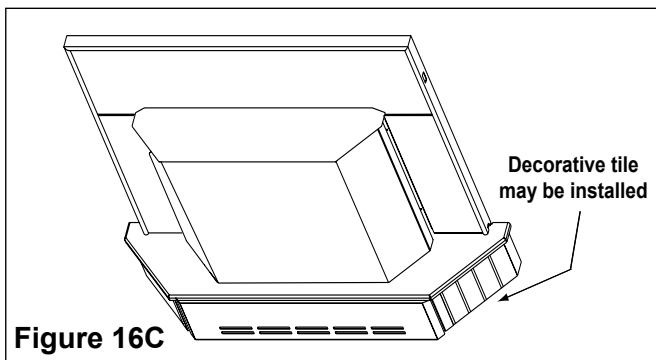

Figure 16C
- NOTE:** 3/8" (9.5mm) thick tile or like material can be cut to size and fit under lip of top trim edge for a decorative touch. **Figure 16C.**